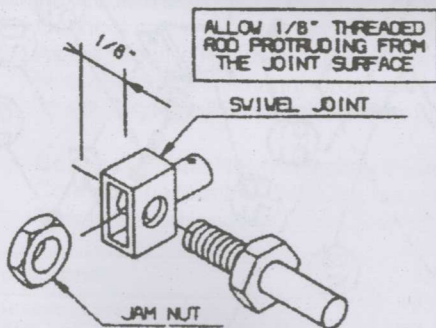

Fig. 5 Shift Cable Swivel Connection
- Insert the Jam Nut in BLACK Plastic Swivel Joint (Ref. Fig. 5) and Screw it on Cable Rod end completely.